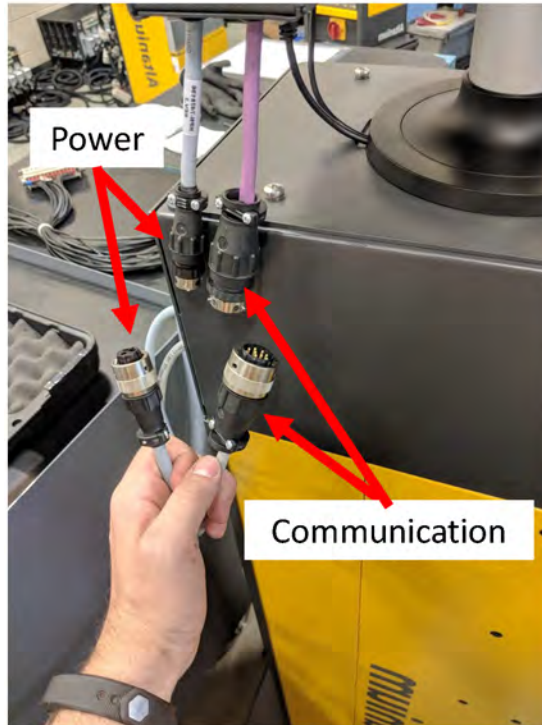

Figure 16-44 Disconnect Operator Interface Power and Communication Connectors
2. Disconnect the power and communication connectors, as shown in Figure 16-44.